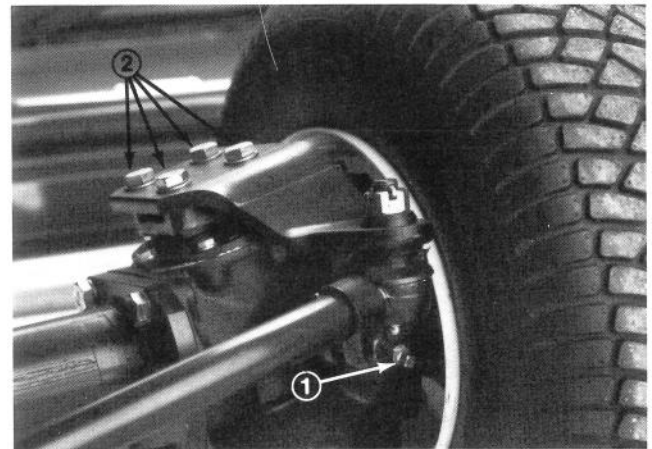

Figure 24
(Fig. 24 & 25) (Model 03531 only)
2. Remove a check plug from each end of axle and make sure lubricant is up to bottom of hole. If level is low, remove one of the mounting bolts above each end plug and add enough lubricant to bring the level up to the bottom of the hole (Fig. 24).